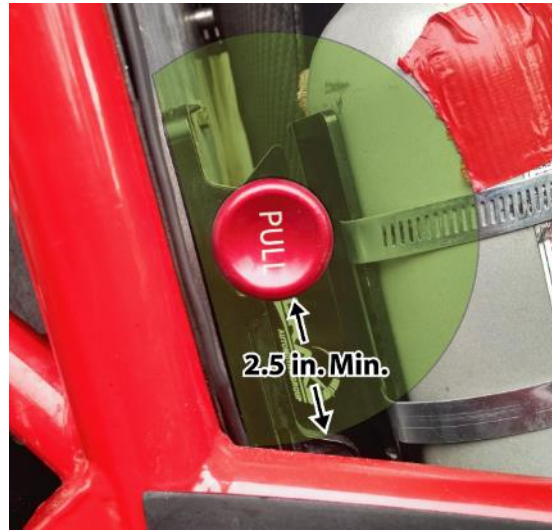

Figure 7
- -Radial clearance around the pull-knob shall not be less than 2.5 inches, as depicted by the highlighted area in Figure 7. It is understood the area aft of the pull knob will be less due to the mount design. Note: radial clearance means unoccupied space between the edge of the pull knob and the nearest obstruction. This measurement is not made to the center of the pull knob.